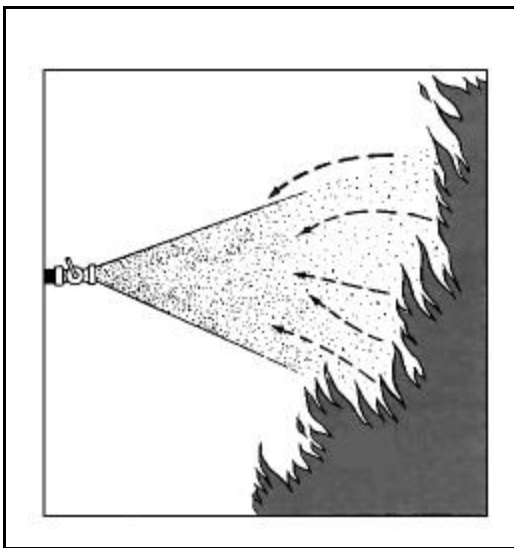

Figure 11-3. Effects of Cooling
- **Cooling.** Reduces the temperature of the fuel below its ignition temperature. This is a direct attack on the heat side of the fire triangle (see Figure 11-3).